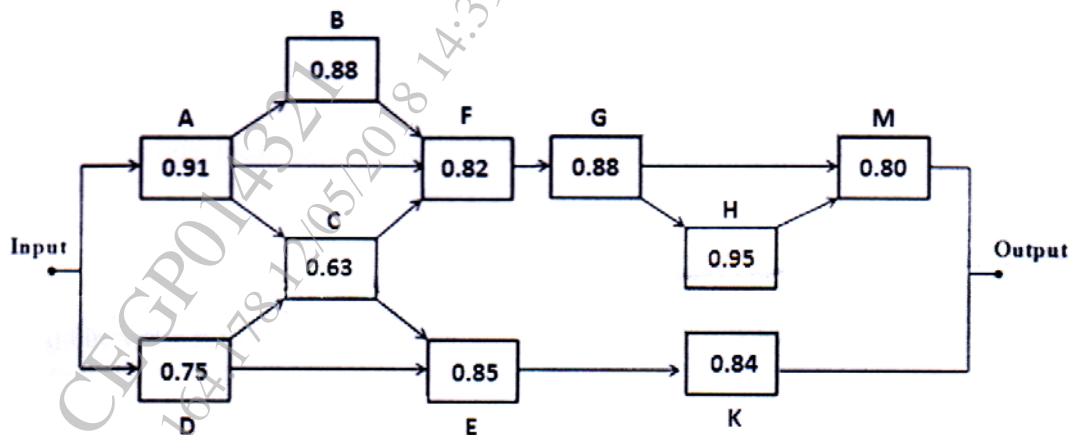

Fig. 1
- b) Find the reliability of the system shown by the block diagram in Fig. 1, using tie-set method. All the elements are independent and the reliability of each element is as given in the figure. Draw an equivalent block diagram for the minimal tie-sets. [6]